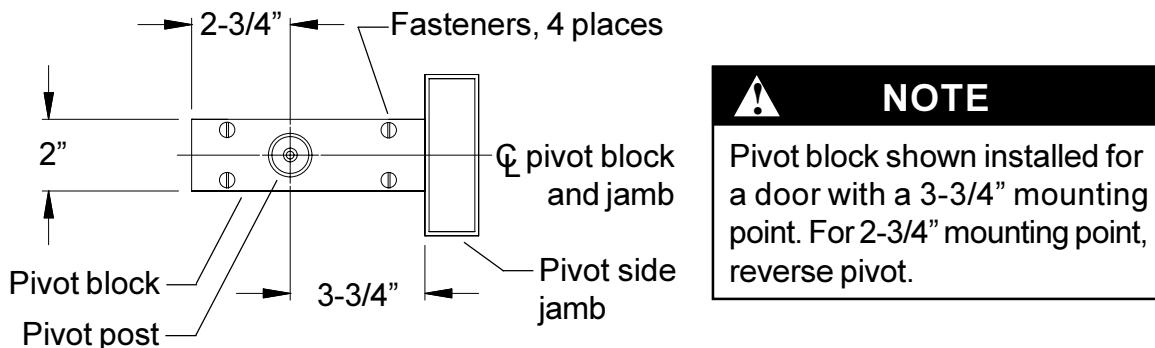
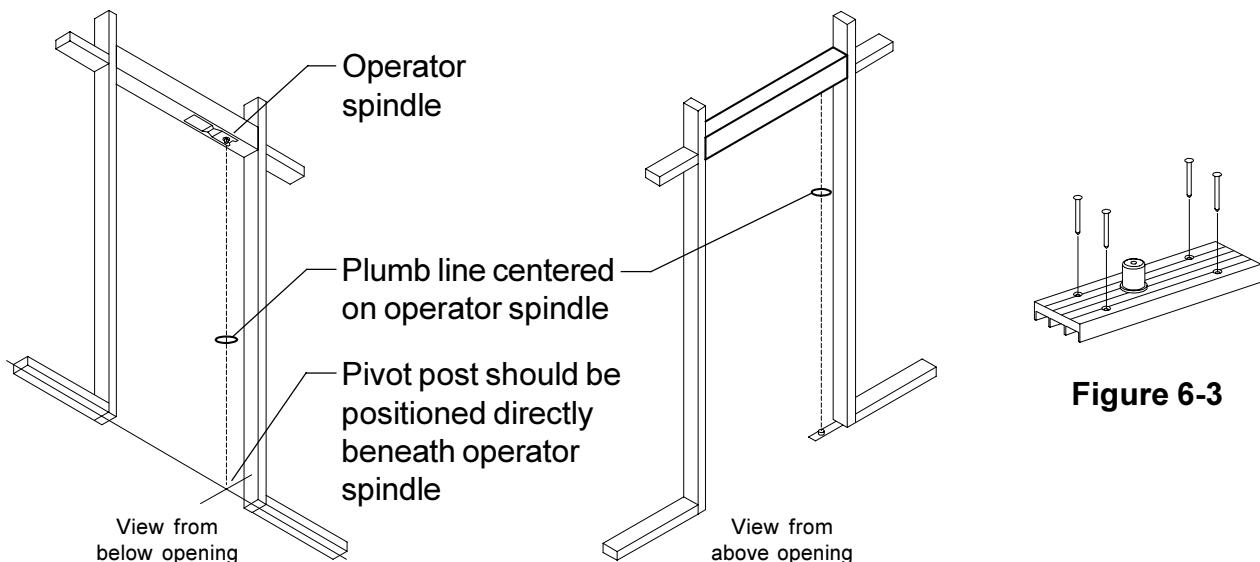

Figure 6-1. Top view of lower pivot block.
Figure 6-2
- 6.1. Position the lower pivot block (Figure 6-1) as shown in Figure 6-2 oriented so the pivot post is 2-3/4" or 3-3/4" (nominal) from the jamb, as necessary.